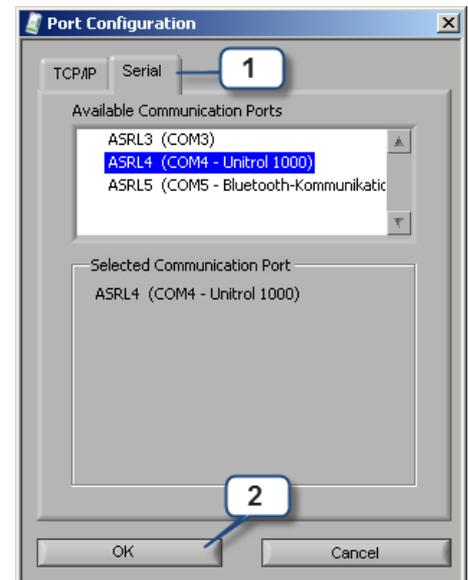

Figure 6-5 USB COM Port Configuration.
1. Connect via the USB port from the PC. Select the "Serial" tab (1) first. See Figure 6-5
2. Click the Ok button (2) to save the changes or Cancel to abort the configuration.